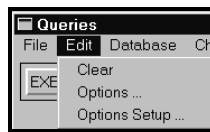

Figure 3-108. QUERY > Edit Menu
As shown in Figure 3-108, the Edit menu contains three (3) choices. They are Clear, Options..., and Options Setup....